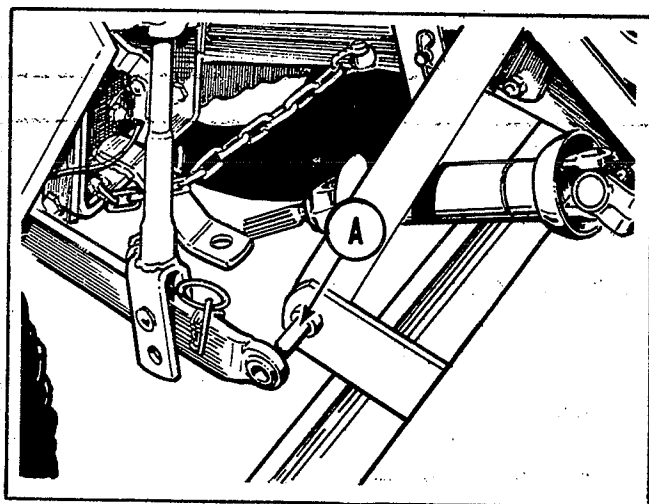

Figure 51. Mounting attachments to the three-point hitch.
**MOUNTING ATTACHMENTS TO THE THREE-POINT HITCH:** (Figure 51) Mounting attachments to the three-